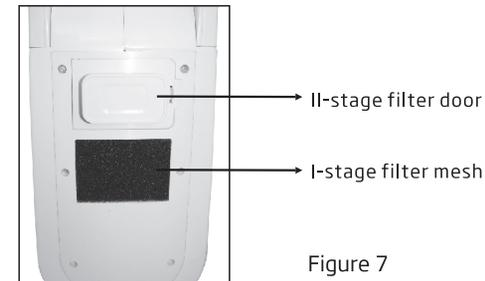

Figure 7
- ▶ The I-stage filter mesh cleans once half a month.(Figure7)